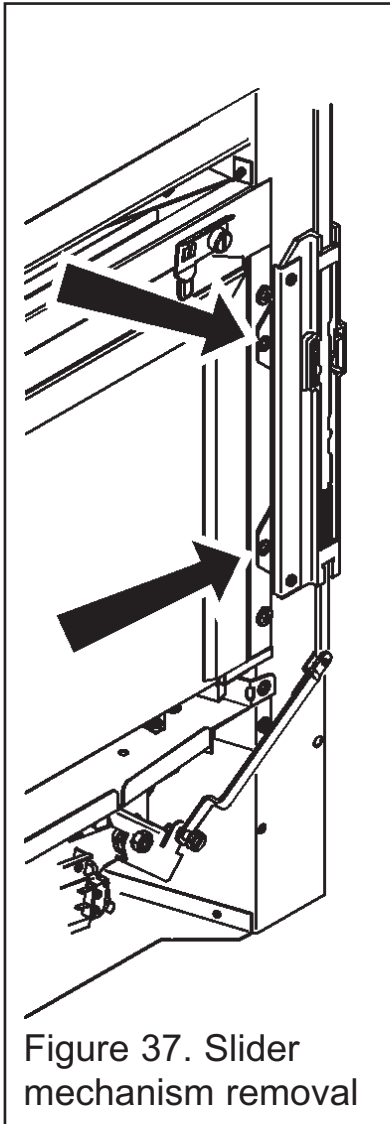

Figure 37. Slider mechanism removal
3. Detach the slide unit by removing two screws securing it to the convection box flange (See figure 37).